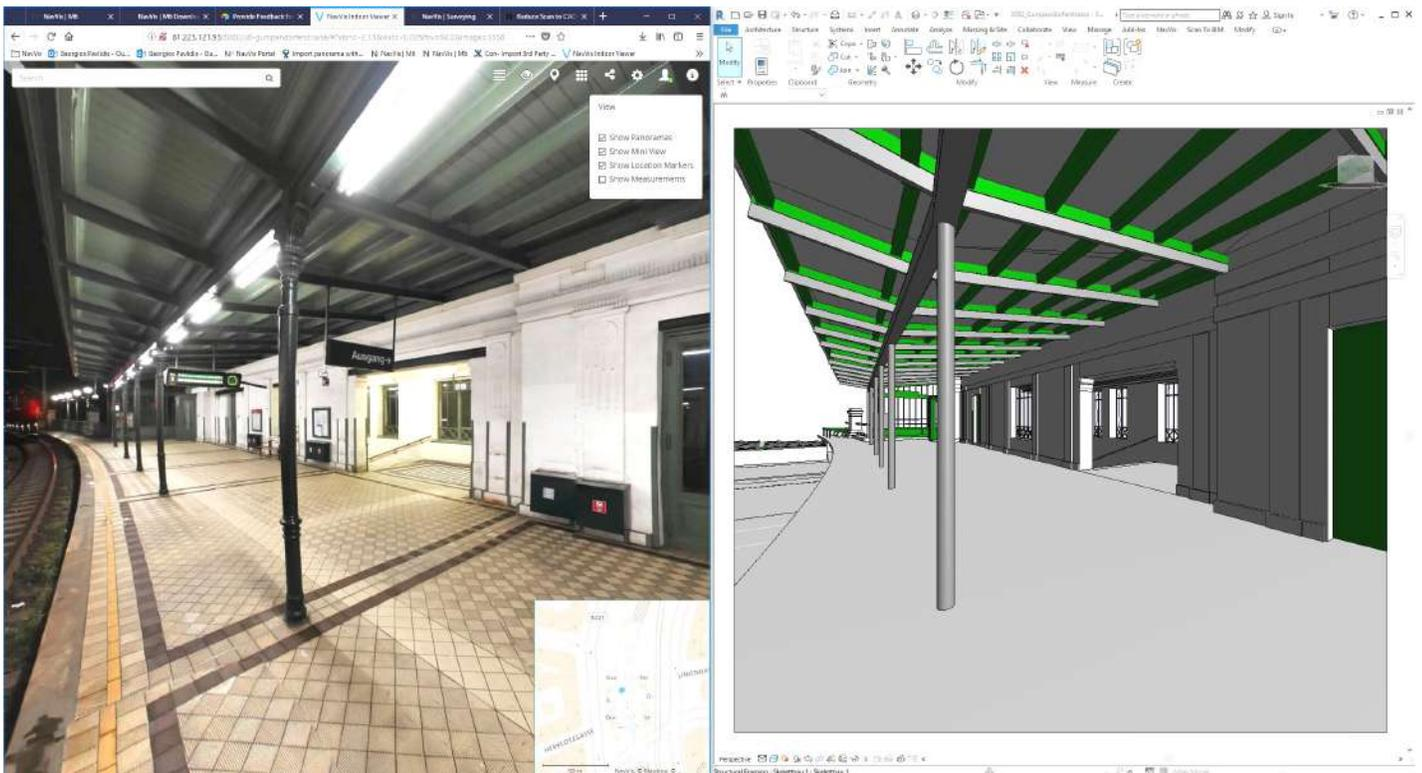

Figure 5: The République Métro in Paris, France captured by the NavVis IMMS and presented as an immersive 360° walkthrough in NavVis IndoorViewer.
**Figure 5: Another example of multispectral data complementing geophysical surveys. Here, two circular pits below the henge are visible in the chlorophyll map image (left) but not in the map generated with magnetic gradiometer surveys (right).**